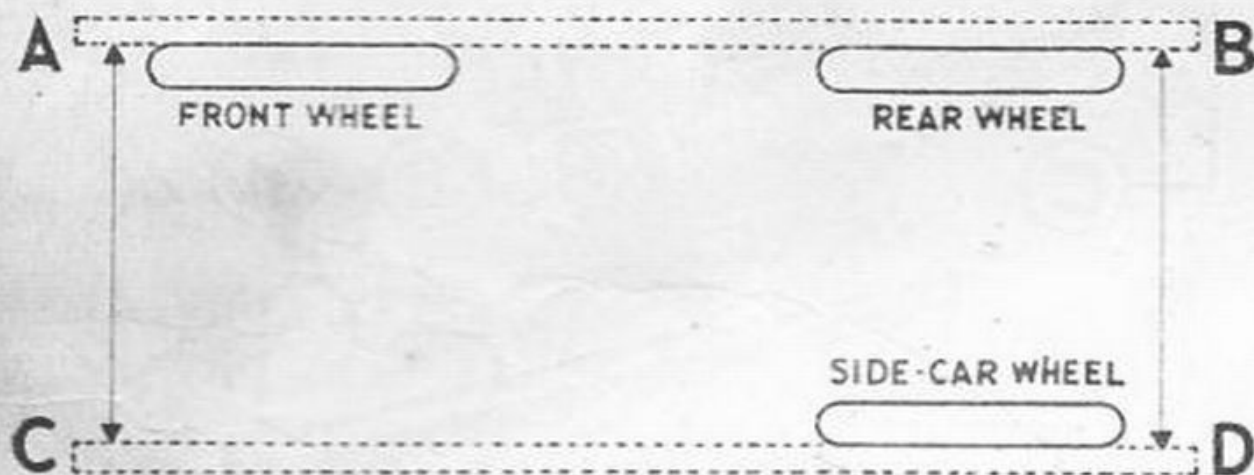

Fig. 22. Sidecar Alignment.
*Fit a straight edge against the sidecar wheel as shown in Fig. 22.*